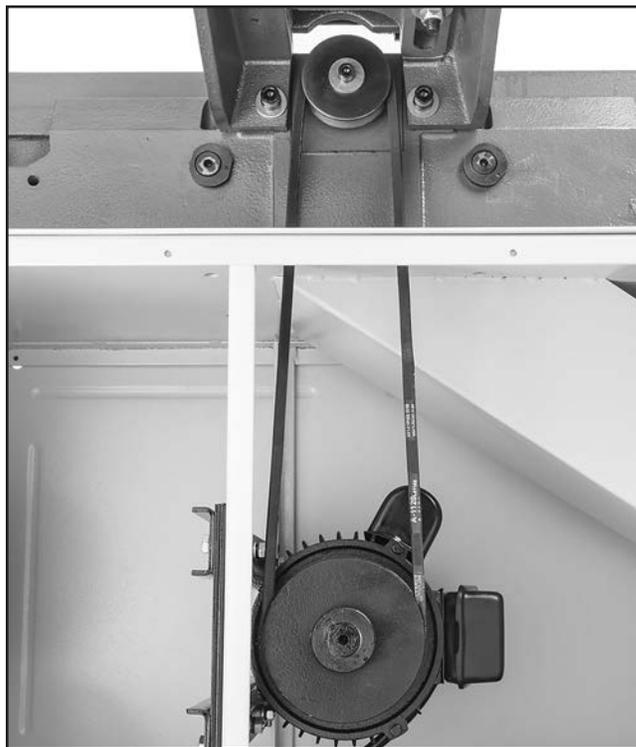

Figure 25. Example of belt installed on cutterhead and motor pulleys.
14. Install belt on cutterhead and motor pulleys, as shown in **Figure 25**, making sure belt is seated in pulley grooves.